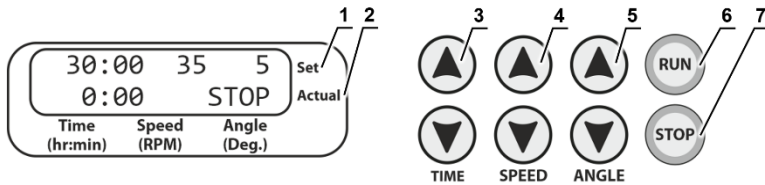

Figure 2. MR-12, control panel
5.2.3 Display shows previously set time, speed and angle in the upper **Set** line (fig. 2/1), and elapsed time and mode indication in the lower **Actual** line (fig. 2/2).
5.2.4 **Setting time.** Using ▲ and ▼ **TIME** keys (fig. 2/3), set the necessary time interval in hours and minutes (step 1 minute).
5.2.5 **Setting speed.** Using ▲ and ▼ **SPEED** keys (fig. 2/4), set the necessary mixing speed in rockings per minute (step 1 RPM).
5.2.6 **Setting angle.** Using ▲ and ▼ **ANGLE** keys (fig. 2/5), set the necessary angle in degrees (step 1°).
5.2.7 Press the **RUN** key (fig. 2/6). Platform begins movement and timer starts counting elapsed time. Speed and angle can be changed during operation (but not time).
5.2.8 If the time interval is set to 0:00, then pressing the **RUN** key puts the unit in continuous operation mode, until the **STOP** key (fig. 2/7) is pressed.
5.2.13 If the platform is overloaded, the device will make three attempts to restart the operation (display indication: DRIVER ERROR). If attempts fail, flashing OVERLOAD indication shows on the display, accompanied by a repeating sound signal, until the **STOP** key (fig. 2/7) is pressed. Eliminate causes of overload before restarting operation.